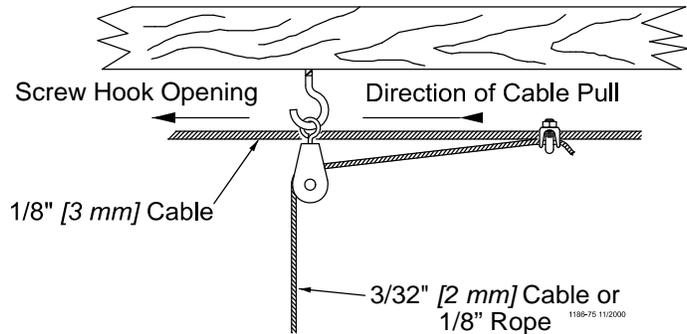

Figure 3. Screw Hook Installation
Screw hook installations: Install screw hooks along the line at 8' [2.4 m] or 10' [3 m] intervals. Screw the threads all the way in to prevent bending. The opening of the hooks must point away from the direction the cable pulls. See **Figure 3**
3. After the screw hooks or ceiling hooks have been secured to the trusses install the pulley assemblies as shown in **Figures 3 & 4**. Make sure the screw hooks or ceiling hooks are pointing in the proper direction (opposite the winch).